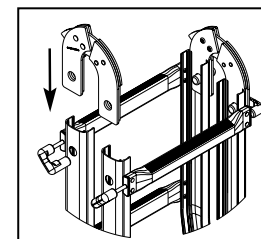

Figure 6
- 4) Place dynamic hinge into outer section rail by threading narrow tab (See Figure 5) of dynamic hinge into inside of the rail with the wider tab on the outside of the rail (See Figure 6).
- 5) Lock using "J" locks as shown in Figure 6. Repeat on other side.